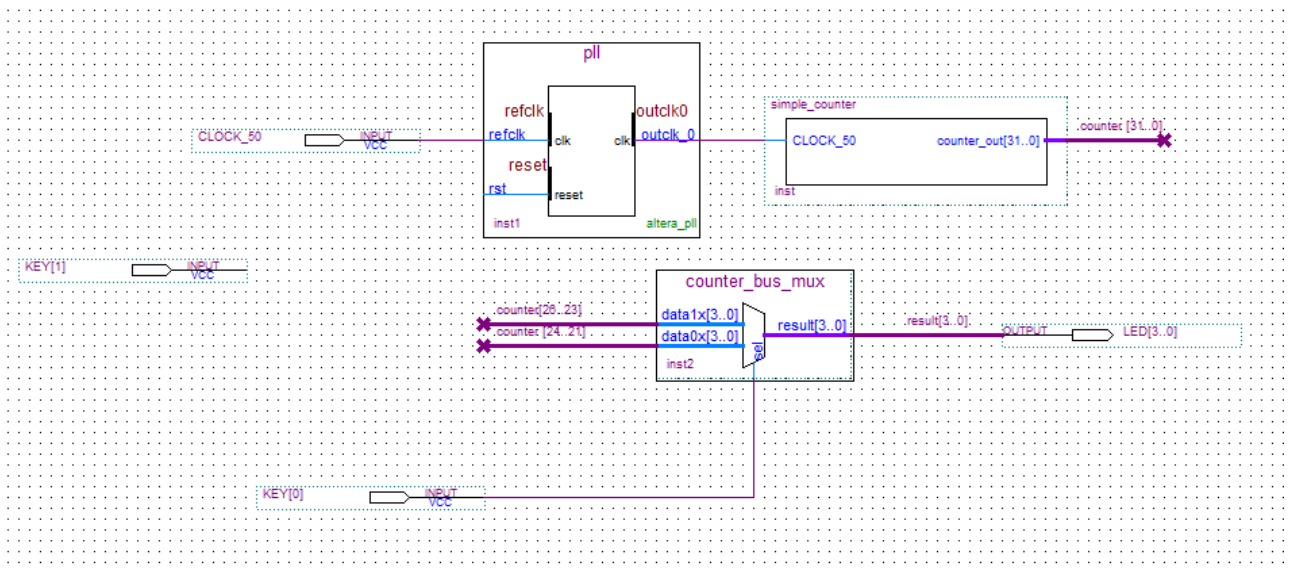

Figure 3-29 Adding the KEY [1:0] Input Pin
23. Place another input pin at the left of the pll and rename it as KEY[1] (see **Figure 3-29**).